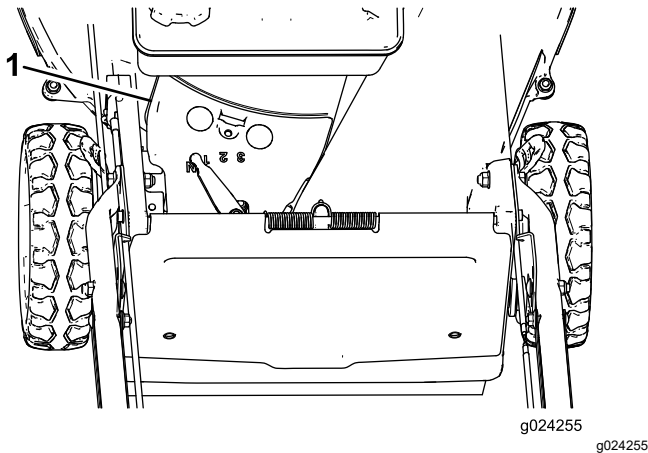

Figure 32
3. Remove the belt cover (Figure 32) from the mower housing.